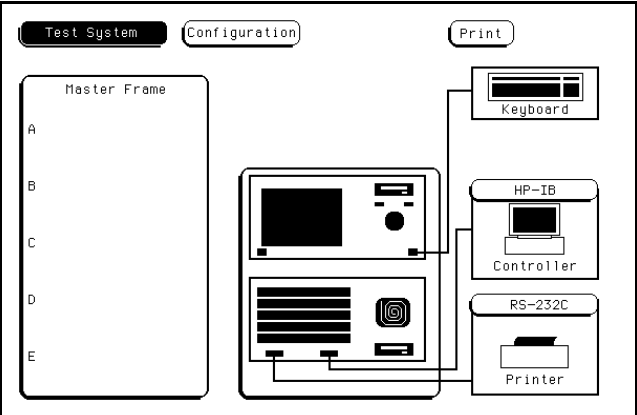

Figure 4-4. Test System Configuration
- 4. After the Test System has been loaded from the disk, the Test Configuration will be displayed. See figure 4-4.